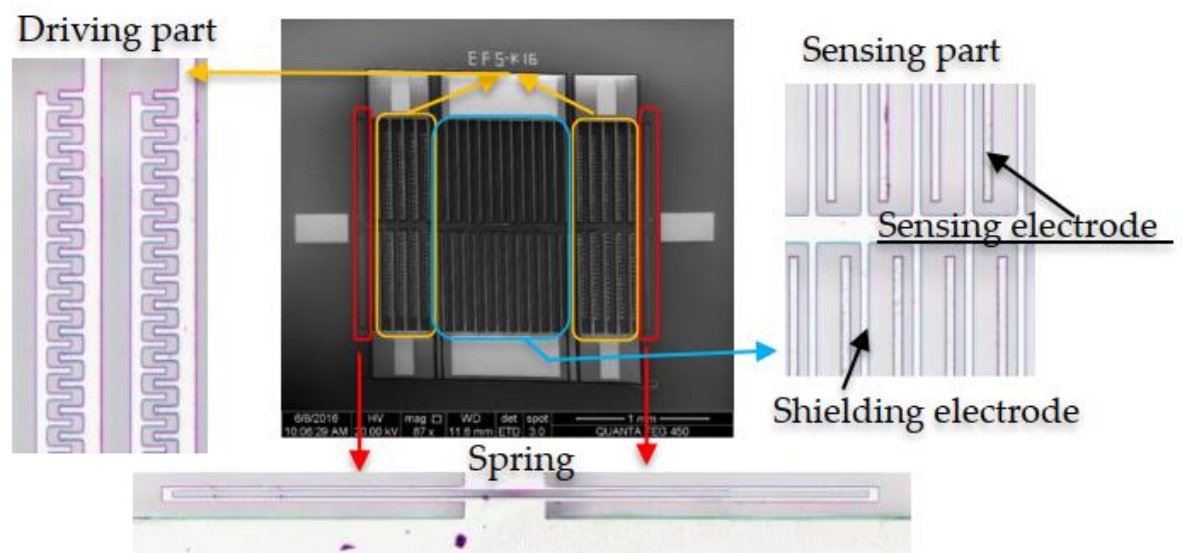

Figure 1. The structure of an electric field sensor based on MEMS technology.
- As is shown in Figure 1, EFSs based on MEMS processing technology consist of a driving part, a sensing part and a spring part.